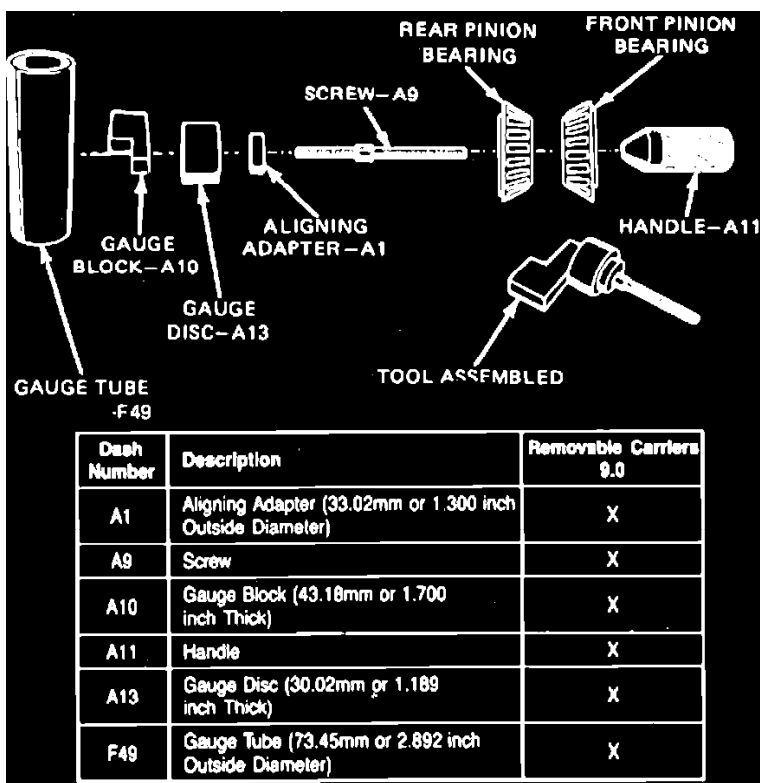

Fig. 5 Removable carrier 9 inch ring gear axle pinion depth tool gauge
1. Select proper rear pinion bearing aligning adapter and gauge disc and slide these adapters over screw or threaded shaft, Fig. 5.